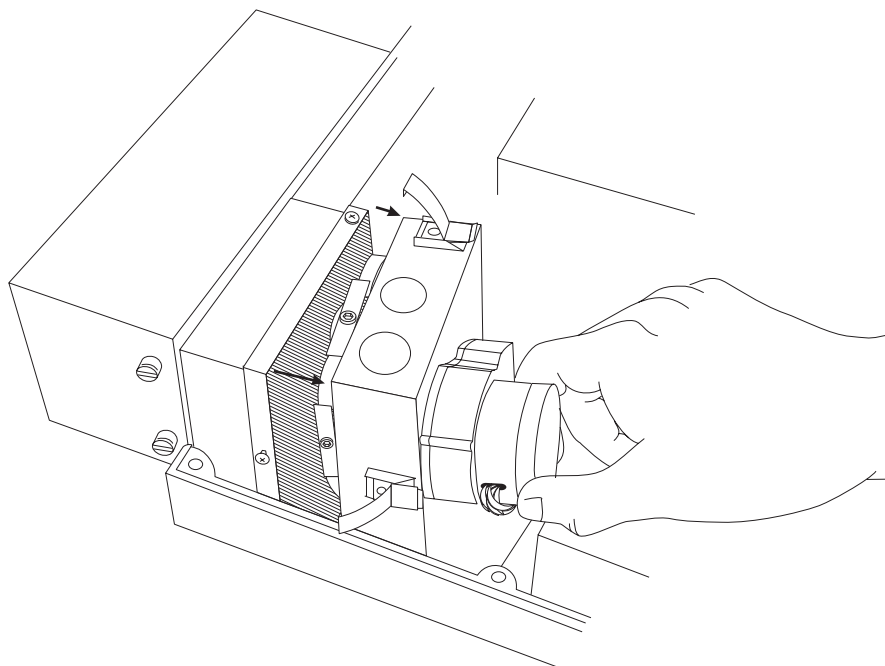

Figure 11: Opening the Light Source Front Cover
- 9) Grasp the front portion (nearest you) of the light source and gently slide it about two inches toward the front of the instrument as shown in Figure 11.